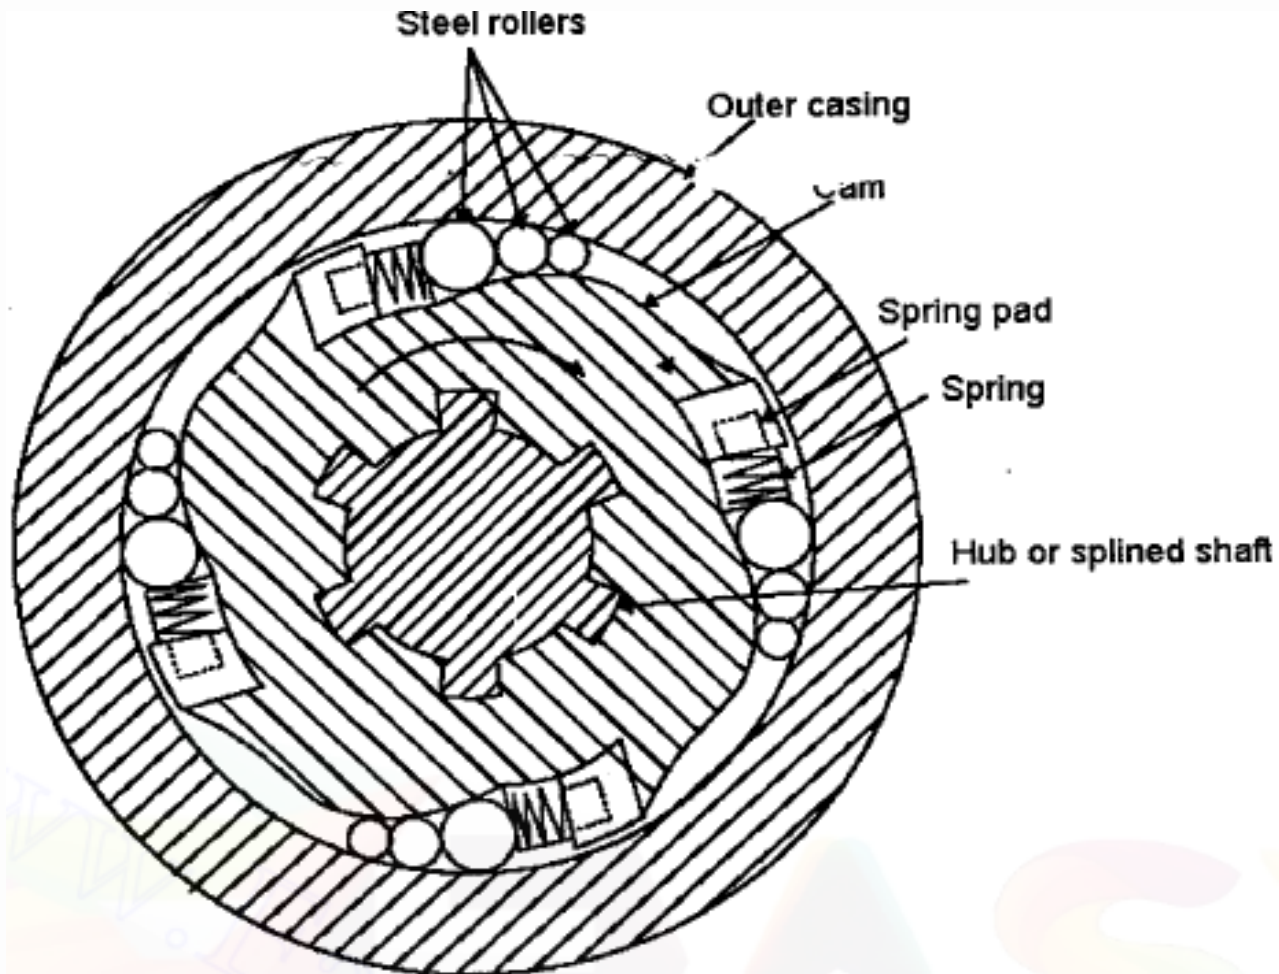

Figure 3.34 Freewheeling assembly
- The construction and principles of operation of a typical freewheel unit are shown in Figure 3.34.
- When the transmission output shaft rotates faster than the overdrive main shaft as shown in Figure 3.34, the rollers are shifted into narrow parts between cam and outer race to perform the locking action.